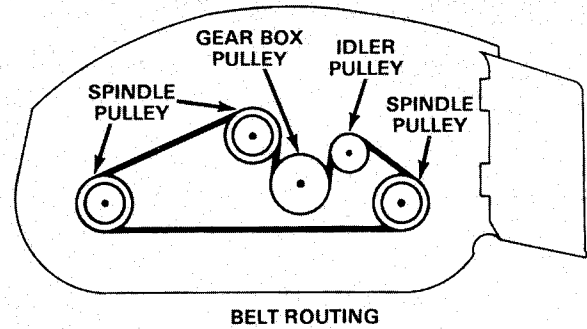

Figure 20
4. Install new belt around spindle, gearbox and idler pullys (Fig. 20) and tighten gearbox mounting bolts.